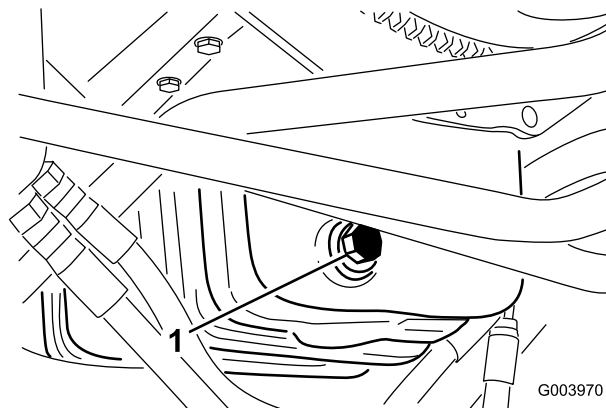

Figure 36
1. Remove the drain plug (Figure 36) and let the oil flow into a drain pan.